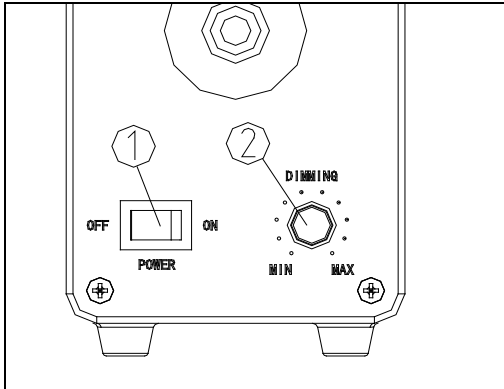

Fig.13
1. Plug the microscope to a power outlet and turn the main power switch to "ON" (1).
2. Adjust the light adjustment knob (2) until the illumination is comfortable for observation. Rotate the light adjustment knob clockwise to raise the brightness. Rotate the light adjustment knob counterclockwise to lower the brightness (See Fig. 13).